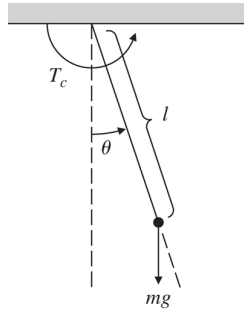

Figure 3: Sketch of an pendulum system
(A) Given the pendulum setup/system seen in figure 3